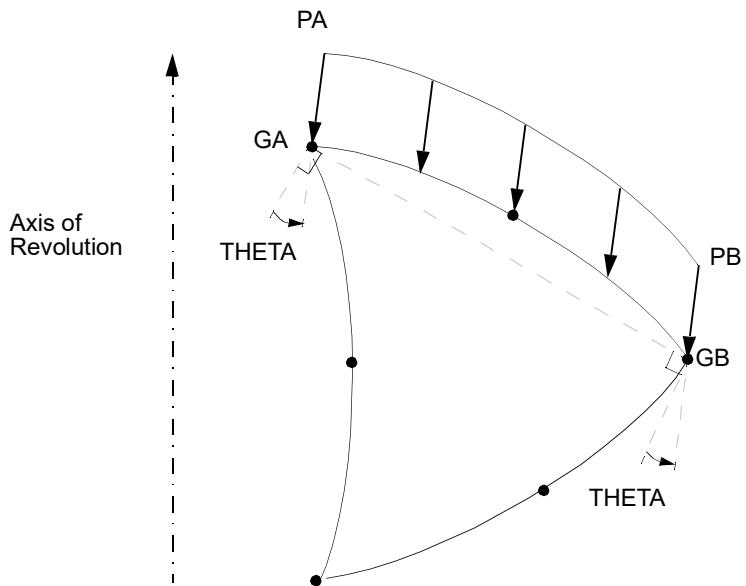
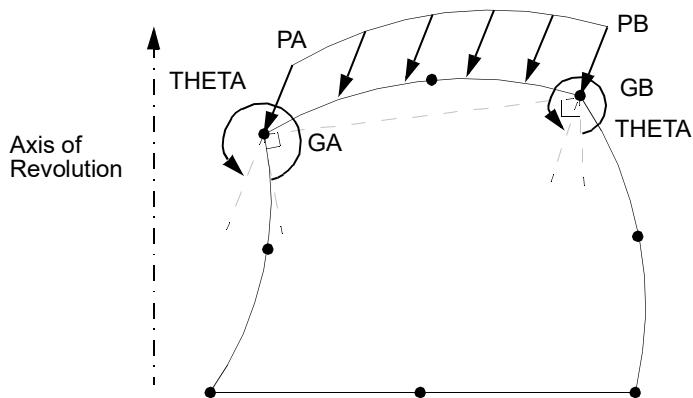
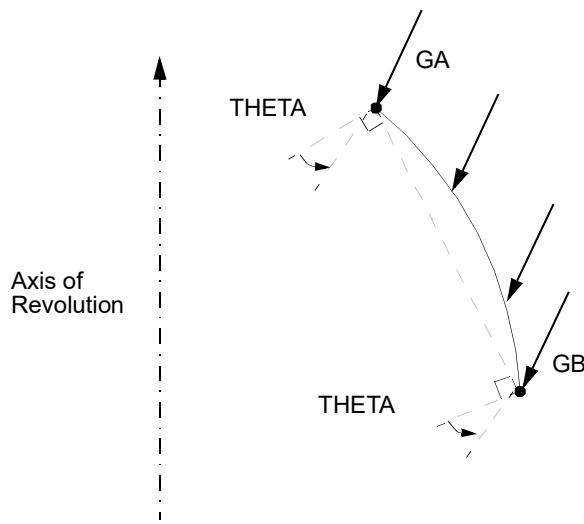

Figure 9-141 Pressure Load on CTRIA6 or CTRIAX Element
Figure 9-142 Pressure Load on CQUADX Element
Figure 9-143 Pressure Load on CAXISYM Element
5. THETA is measured counter-clockwise from the inward normal of the straight line between GA and GB, to the vector of the applied load, as shown in Figure 9-141, Figure 9-142, and Figure 9-143. Positive pressure is in the direction of inward normal to the line segment.